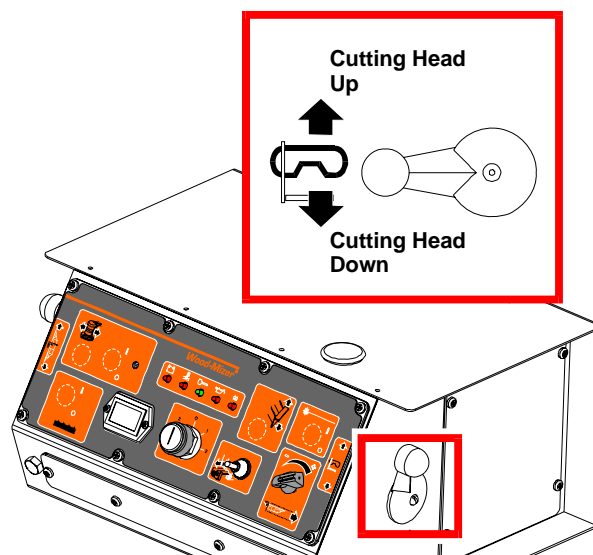

FIG. 2-12
**See Figure 2-12.** The up/down switch is located on the far right side of the control panel. Push the switch up to raise the cutting head; push the switch down to lower the cutting head. Hold the switch in position until the cutting head reaches the desired height, then release.